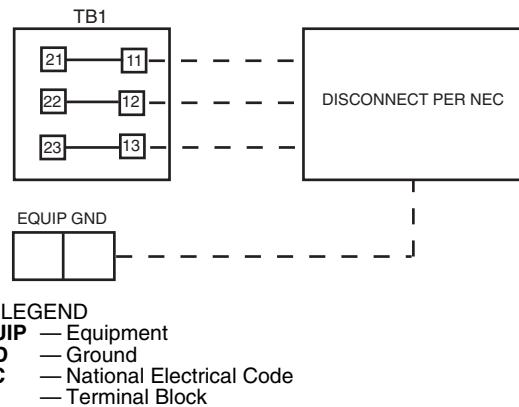

Fig. 32 — Field Power Wiring Connections
Units without Factory-Installed Disconnect — When installing units, provide a disconnect per NEC (National Electrical Code) of adequate size (MOCP [maximum overcurrent protection] of unit is on the informative plate). All field-wiring must comply with NEC and all local codes. Size wire based on MCA (minimum circuit amps) on the unit informative plate. See Fig. 32 for power wiring connections to the unit power terminal block and equipment ground. Maximum wire size is two (2) 500 MCM (maximum wire size) conductors per pole.